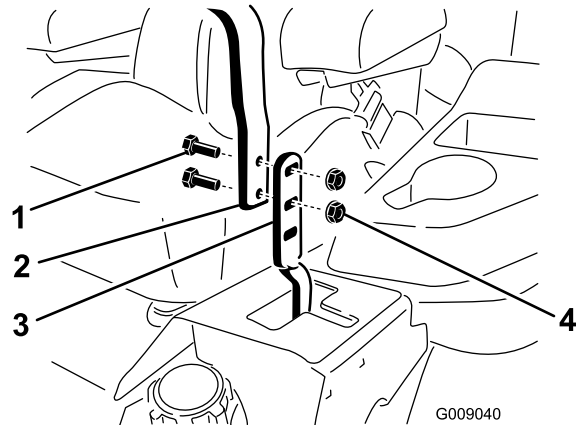

Figure 85
3. Loosen the bolts and flange nuts installed in the levers (Figure 85).